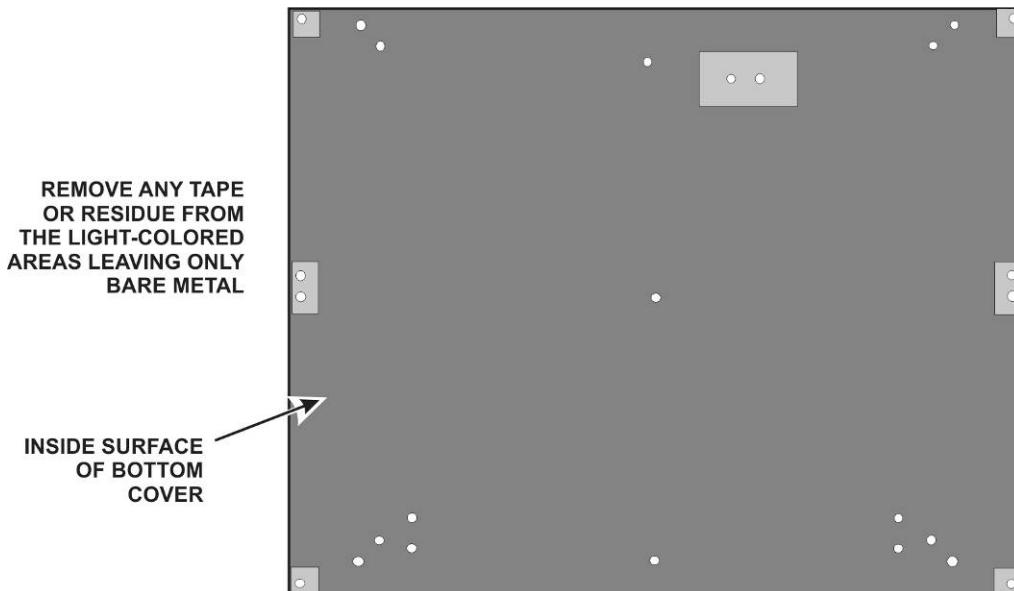

Figure 15. Preparing Bottom Cover for Installation.
- Locate the bottom cover. It is the same size as the top cover, but you can identify it by the hole pattern. Check the **inside** surface and remove any tape or other residue to ensure clean, bare metal at the locations shown in Figure 15. This is important for proper grounding of the enclosure panels.